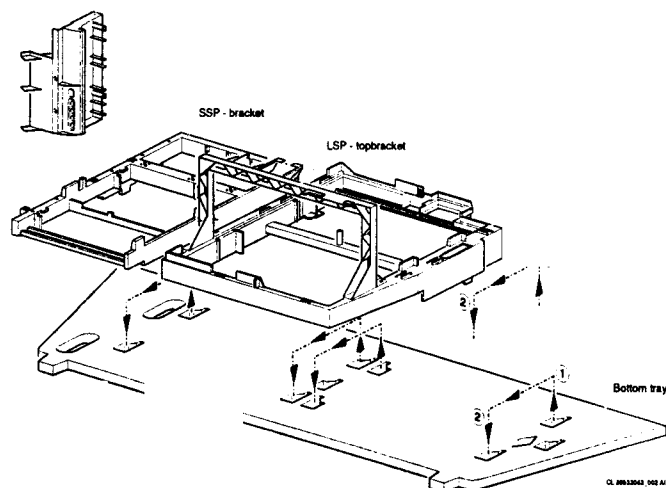

Figure 4-3
4. Hook the brackets in the first row of fixation-holes of the bottom tray; see figure 4.3. In other words re-position the fixation from (1) TO (2)
1. (See figure 4.3). Remove the two fixation screws of the LSP-topbracket (one on the left hand side, one on the right hand side)
1. The complete Side I/O-assembly can be lifted out of the hinges and placed on the bottom tray of the set. (see fig 4.3)